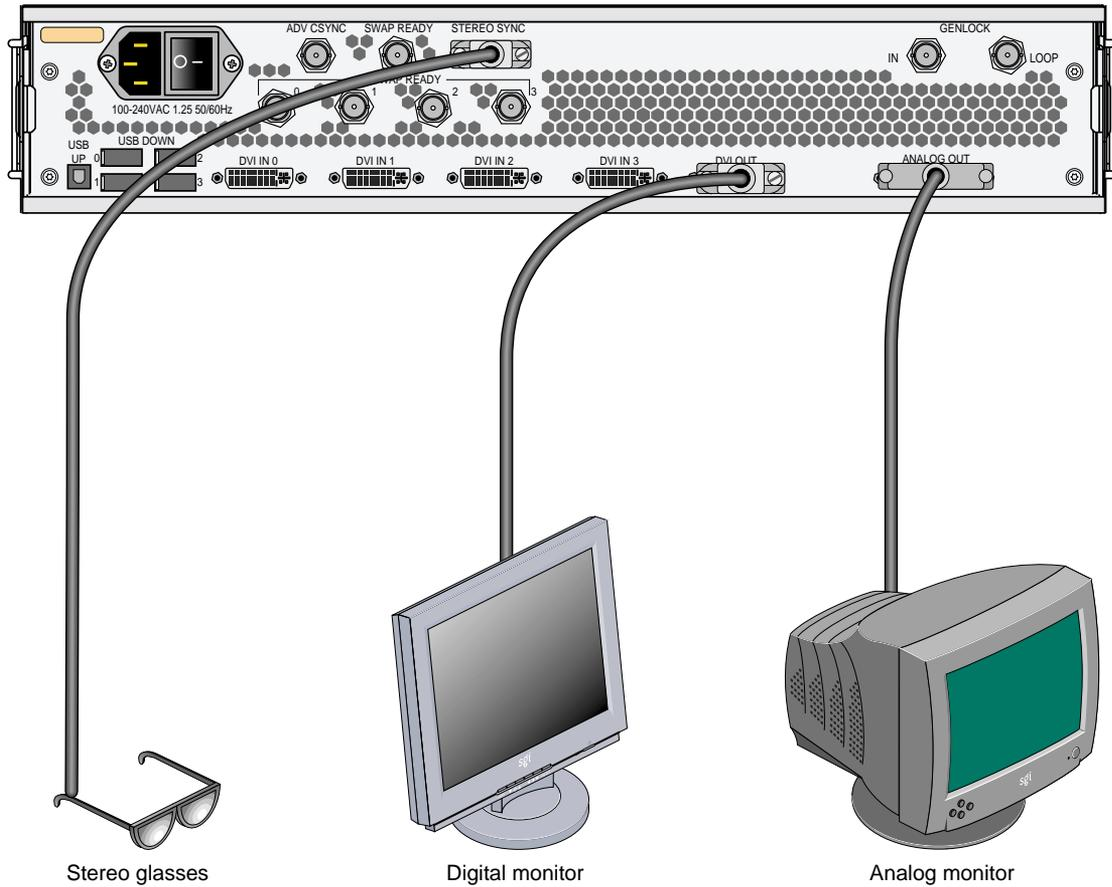

Figure 2-8 Connecting to Digital and Analog Monitors
8. As is applicable to your cabling installation, connect the following items to the compositor (as shown in Figure 2-8):